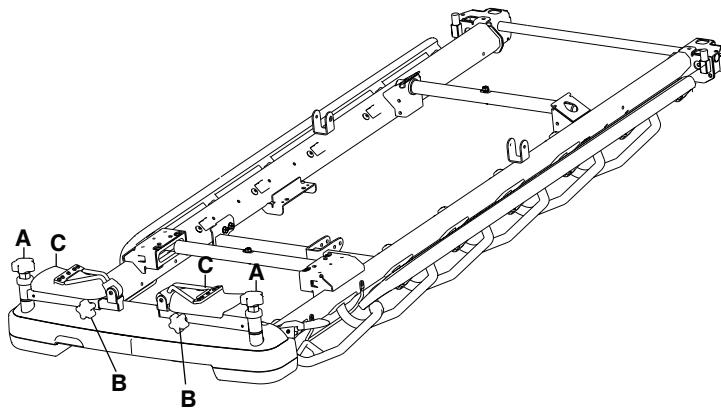

Figure 31 – Stowing the foot supports
3. Loosen the leg knob (B) on the side of the foot supports to adjust the length.
4. Tighten the leg knob (B) to lock the foot supports in the desired position.
5. Flip the foot supports (C) up before you position the patient.
6. Reverse steps to stow the foot supports (Figure 31).